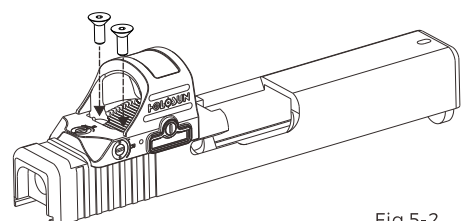

Fig 5-2
3. Use either the included screws or screws supplied with your slide or from your gunsmith and tighten to 15 INCH/lbs using a non-permanent (medium/blue) thread locker. (Fig5-2)